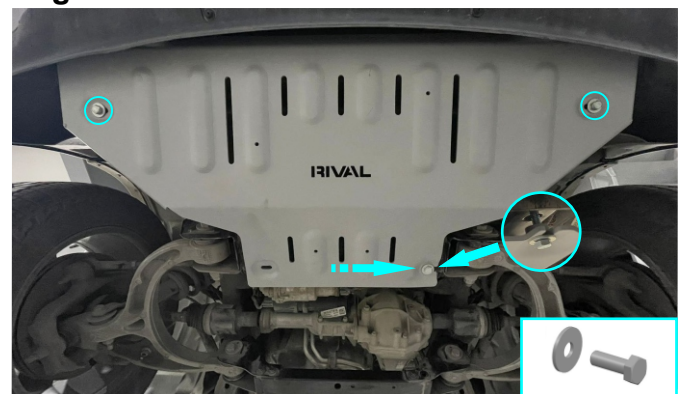

Fig. 11
11. Slide front part of radiator skid plate (item 1) under front bumper after that slide rear part of radiator skid plate (item 1) under previously installed bolt M10x50. Secure front part using bolts M10x30 with flat washers M10 (items D, F) as shown in fig.11.